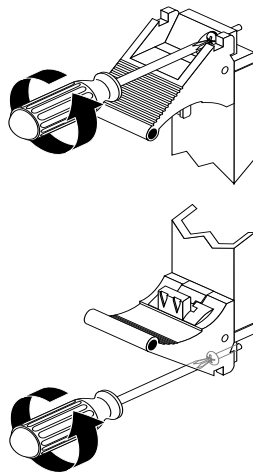

FIGURE 6-5 Loosening the Ejection Lever Captive Screws
4. Using a No. 2 Phillips screwdriver, loosen the two captive screws inside the card’s ejection levers, one on top and one on the bottom (FIGURE 6-5).